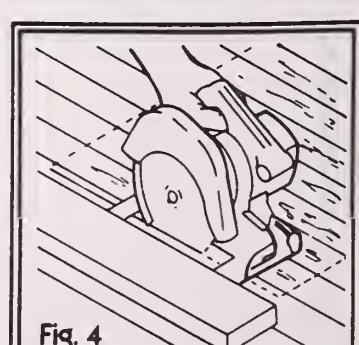

Fig. 4
4. Make the side cuts of the marked area in a similar manner. To assist in guiding the saw, nail a strip of wood next to the pencil mark. You may now slide the saw along the edge of the strip as you make the cut (fig. 4).